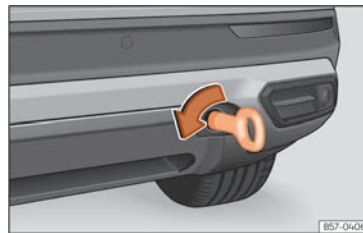

Fig. 195 Right side of the rear bumper: towline anchorage screwed in.
- Screw the towing eye in the housing by turning it to the maximum **anticlockwise** >>> Fig. 195 , >>> ①. Use a suitable object that can completely and securely tighten the towing eye in its housing.